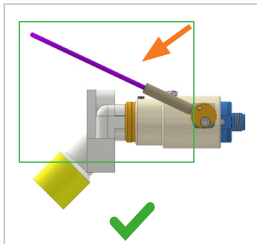

Figure 5
- ▶ Fold the actuation unit (Pos. 1) downwards (*Figure 5*).